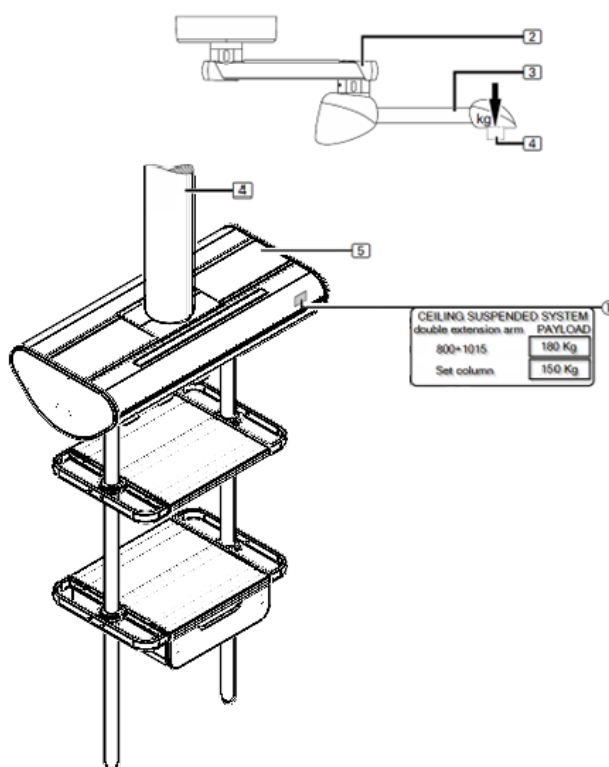

Fig.20 Location of the payload label
The dead weight of the drop tube (4) and the service head (5) must be subtracted from the maximum load capacity of the suspension system. This value corresponds to the maximum load capacity (payload). In the example illustrated in figure 20, there is an extension arm and motorised arm assembly with a load capacity of 180 kg, the maximum payload is 150 kg after subtraction of the dead weight of the service head and is indicated on the sticker (1) on the service head.